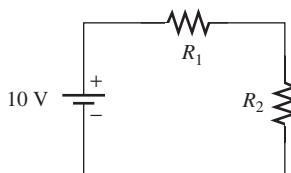

FIGURE P14.21 Simple volt-dividing circuit.
- 14.21** (A) A circuit is shown in Figure P14.21, $R_1 = 100 \Omega$, $R_2 = 400 \Omega$. When you use a voltmeter with $10 \text{ k}\Omega$ internal resistance to measure the voltage applied on R_1 and R_2 , where will you get a larger error percentage?